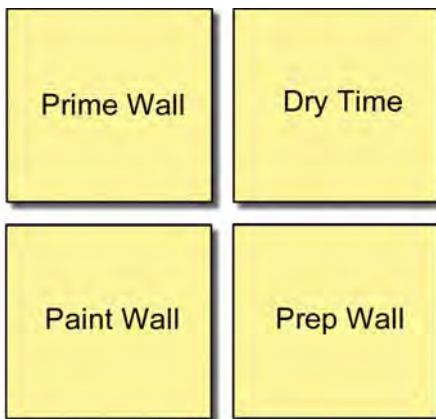

Figure 2-1 Activities
**Figure 2-1** displays all the activities in painting a wall in no particular order. The project is comprised of *Prime Wall*, *Paint Wall*, *Dry Time*, and *Prep Time*.